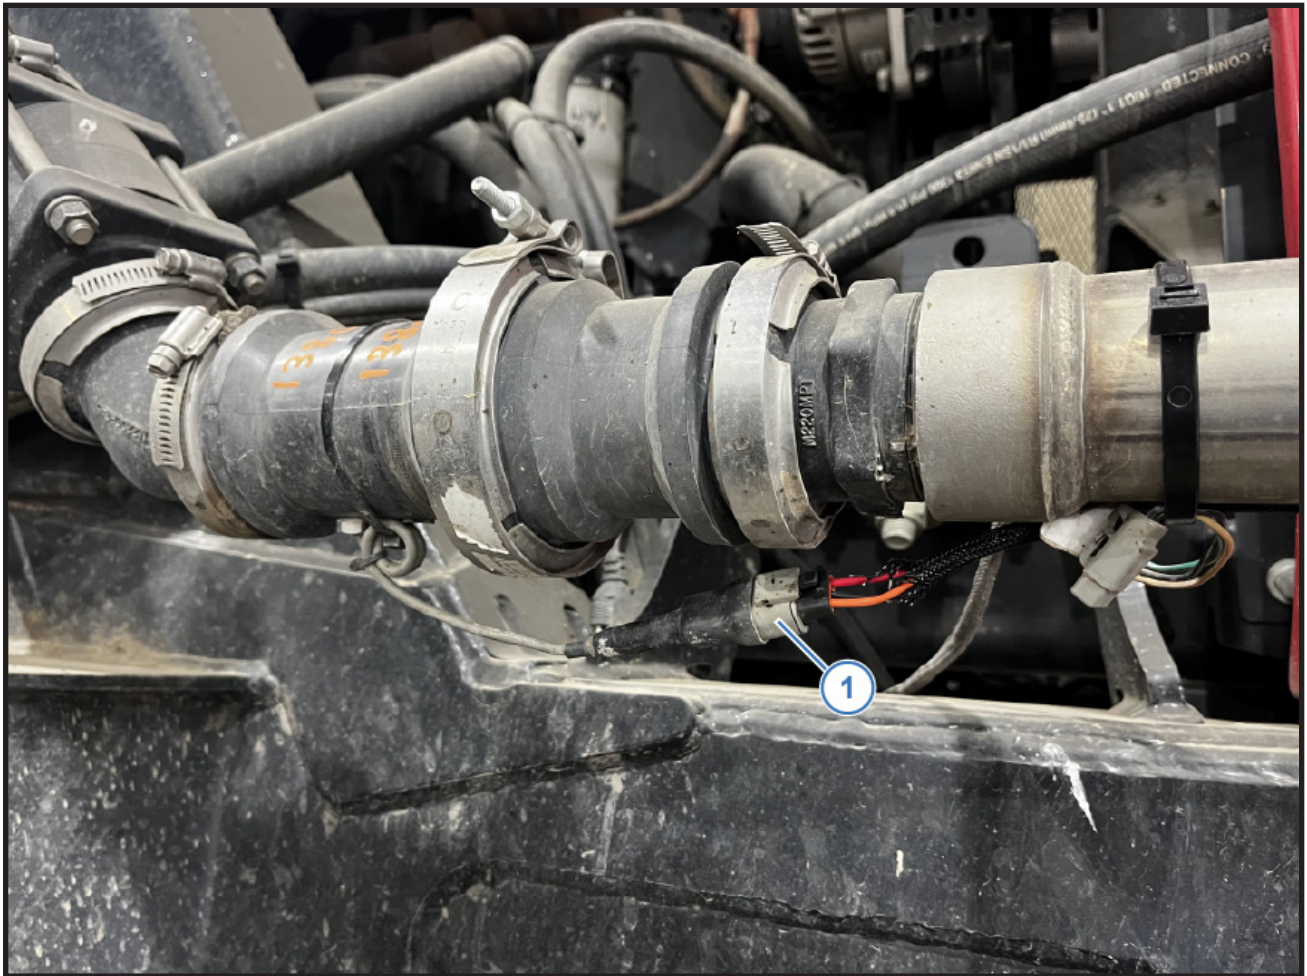

Figure 12: Flowmeter Harness
17. Disconnect the existing machine harness from the flowmeter and connect the Chassis Harness connector (Figure 12, Item 1).